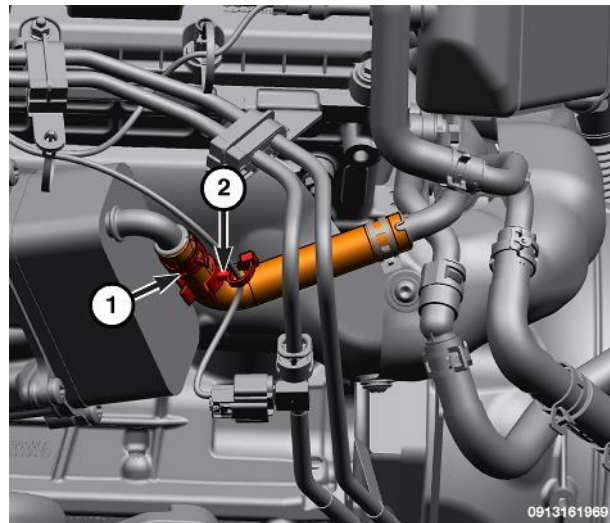

Figure 19 – Wire Harness Retainer
26. Detach the wire harness retainer (2) from coolant hose (Figure 19).
28. Disconnect the coolant hose (1) from the oil cooler (Figure 19).
32. Connect the coolant hose (1) to the oil cooler (Figure 19).
33. Attach the wire harness retainer (2) to the coolant hose (Figure 19).